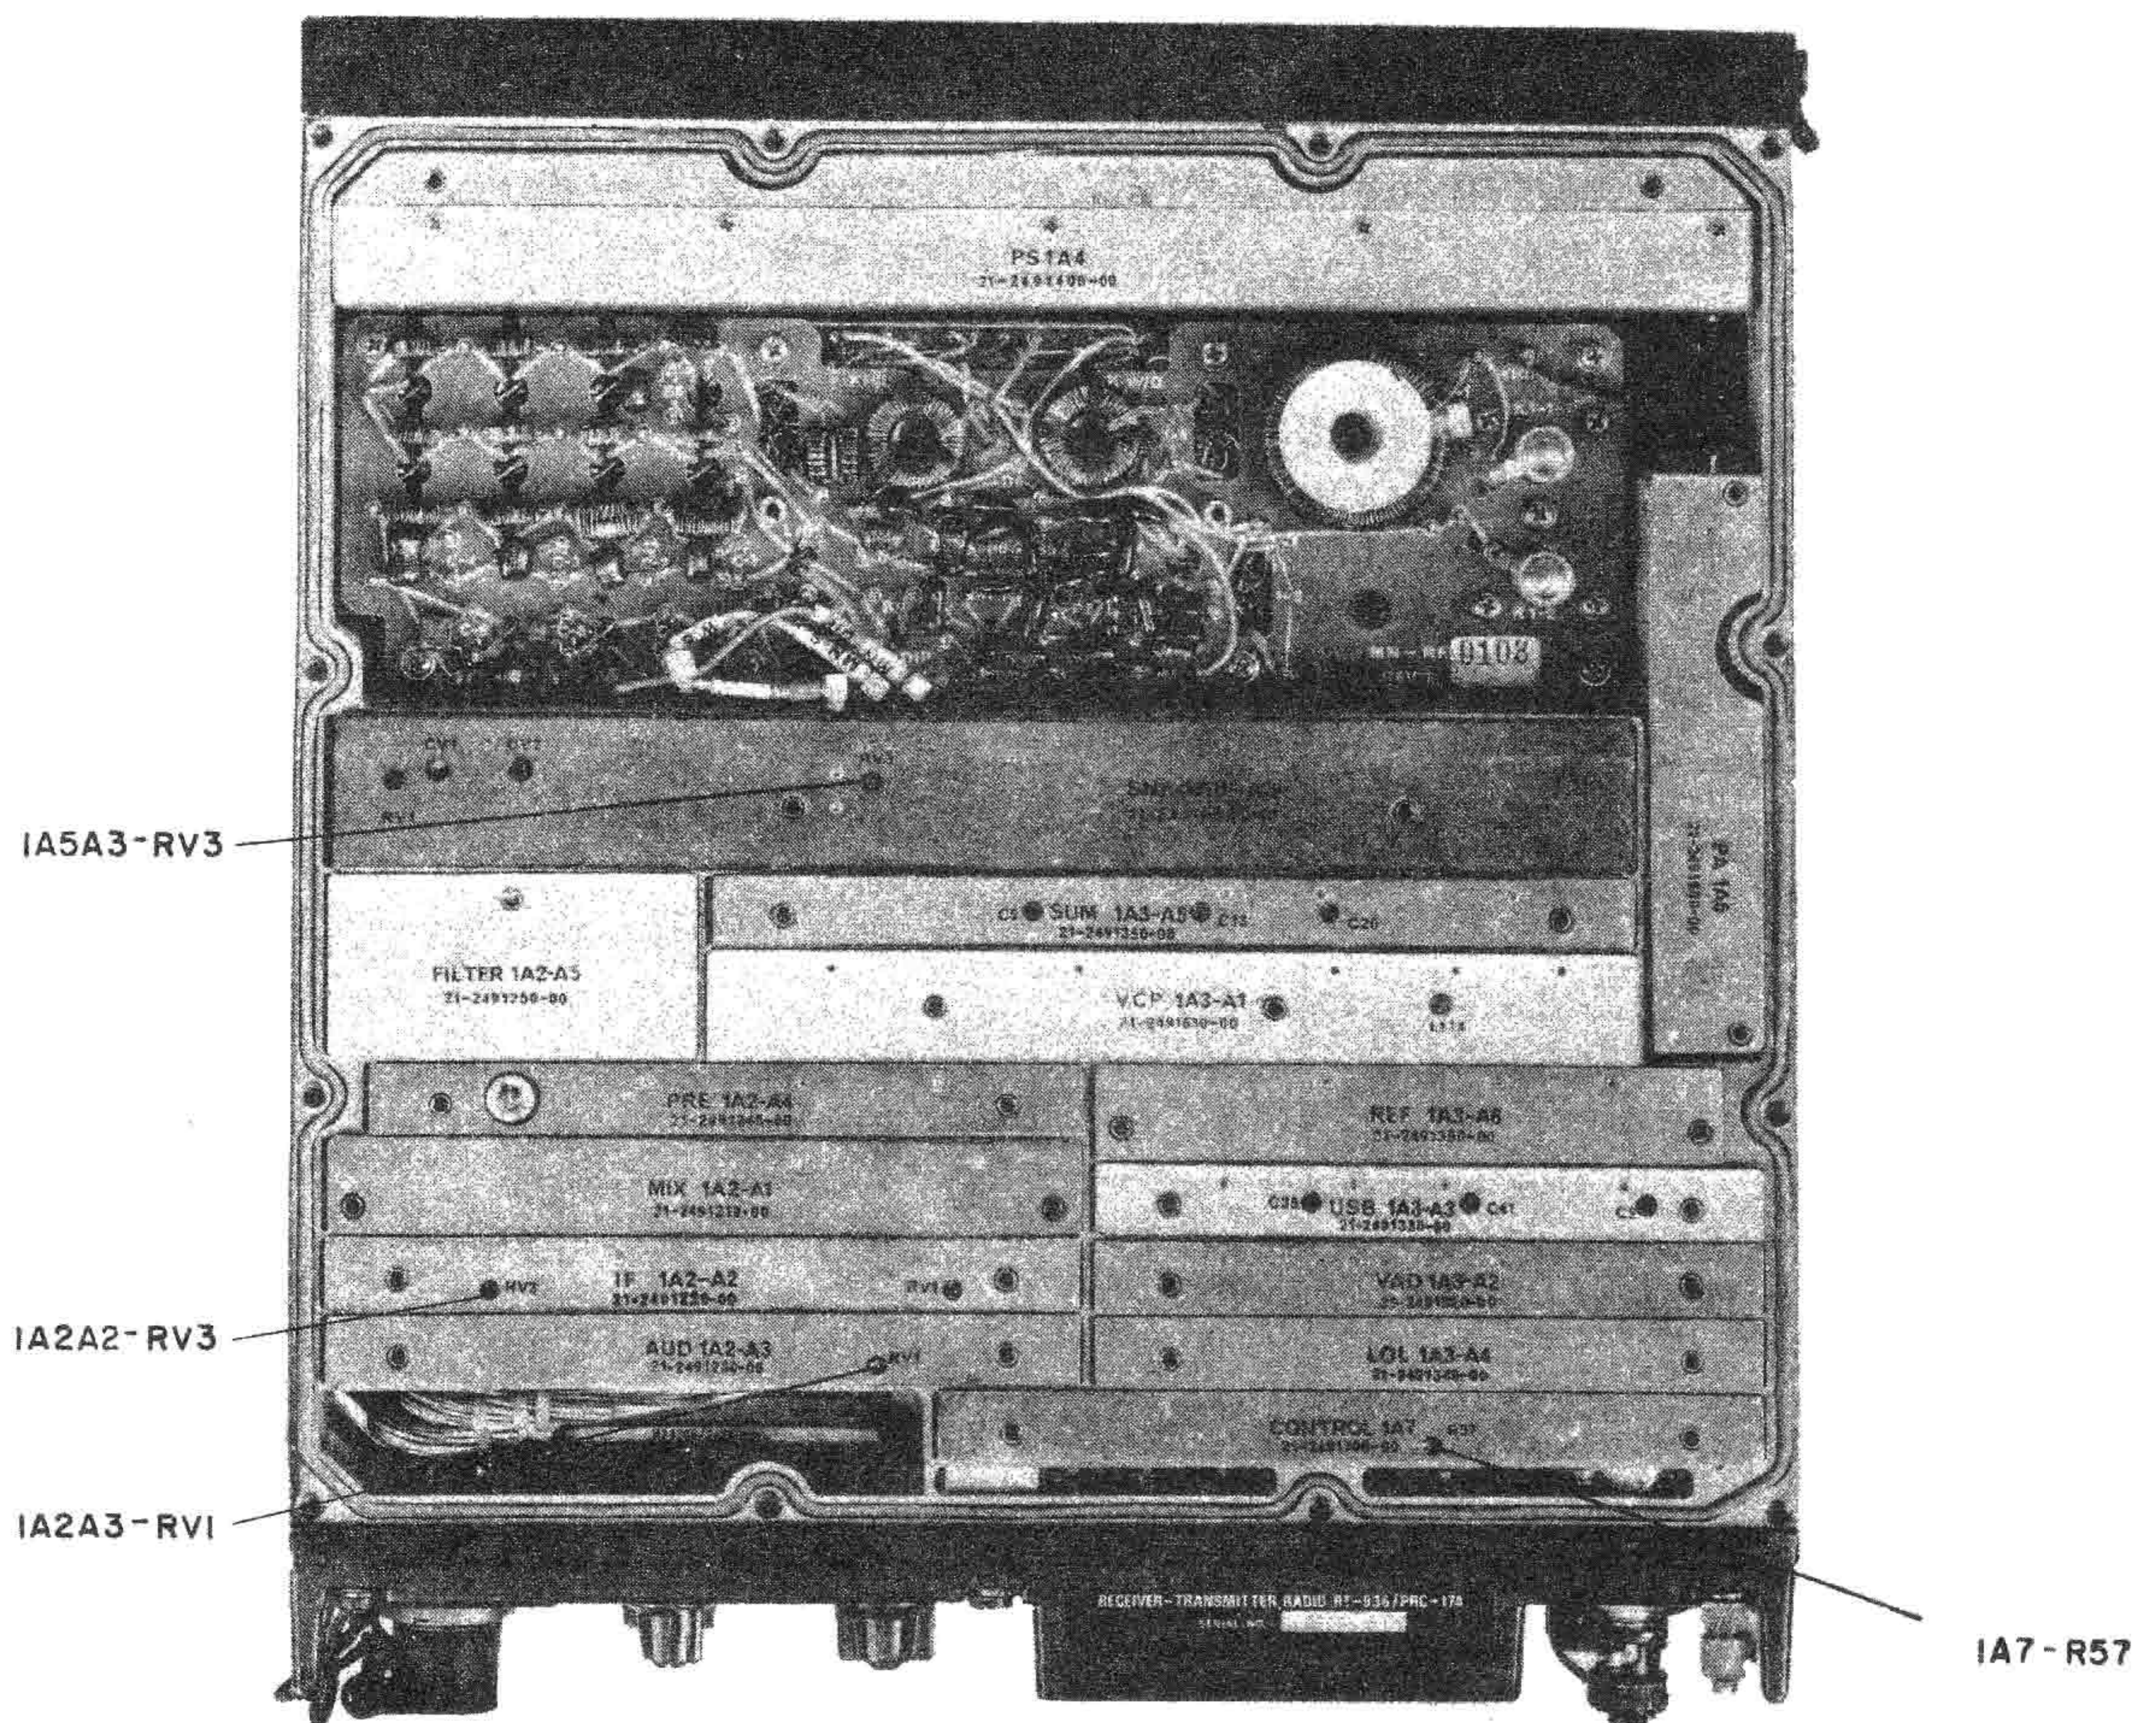

Fig. 4-5. RT-936/PRC-174, Identification of Alignment Points
| | b. Adjust- ment of ALC circuits | Same as for a. above, except: 220mV/5mV: 220 mV MODE : DATA | (9) Set the PTT switch to R. (1) Set the test fixture con- trols to the required positions. (2) Identify potentiometer RV3 on module SNF 1A5A3 (fig. 4-5). | N/A N/A |
| 5 | Cont'd. b. Adjust- ment of squelch circuit | Same as for a. above. | (4) Set the MOD selector, located on the front panel of the test fixture, to 10%. Adjust the modulation index of the RF signal generator to 8% if necessary. (1) Tune the RF signal generator to 16.00050 MHz and adjust it to obtain a 3 microvolt test signal modulated 17.5% by the external modulation signal provided by the test fixture. Use DC coupling at the external AM input. (2) Identify potentiometer RV1 on module AUDIO 1A2A5 (fig.4-5). | The receiver output is squelched after 2 to 4 seconds following reduction of modulation index to 8%. N/A. |